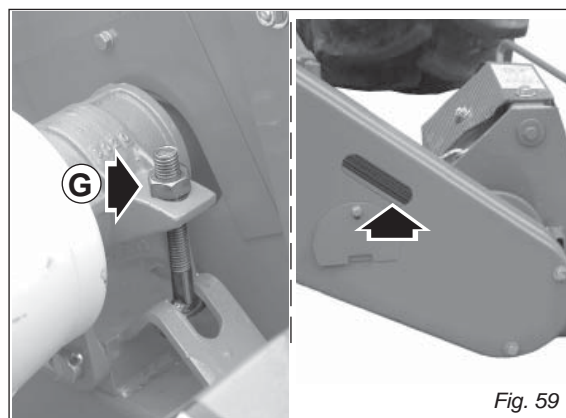

Fig. 59
- Adjust belt tension periodically by adjusting nut (G, Fig. 59). Check tension via the viewing panel on the belt guard. Belt slack must not exceed 1 inch. It is essential to close the inspection hatch with the relative lid after the belts have been examined.